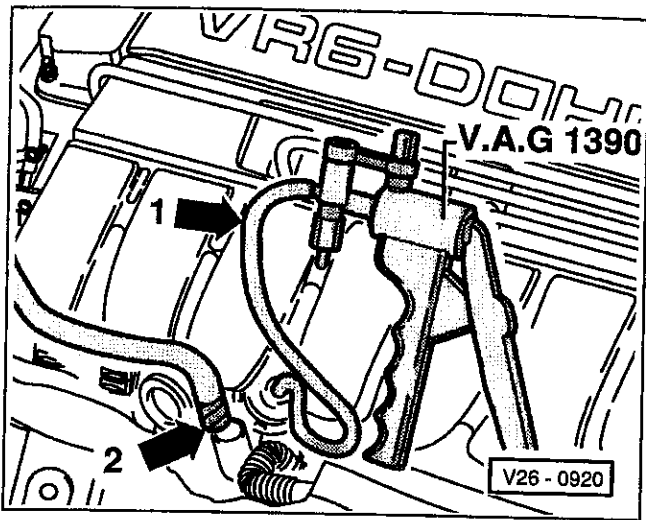

Fig. 17. Hand pump connected to AIR shut-off valve (1). Connect pump and apply vacuum while blowing through auxiliary hose (2).
4. Check the shut-off valve by disconnecting the two hoses from the valve. Attach a hand vacuum pump to the valve's vacuum fitting and apply vacuum. Check if the valve opens by blowing air through the large hose fitting. See Fig. 17. Release the vacuum and check if the valve closes (air does not pass through large hose fitting).